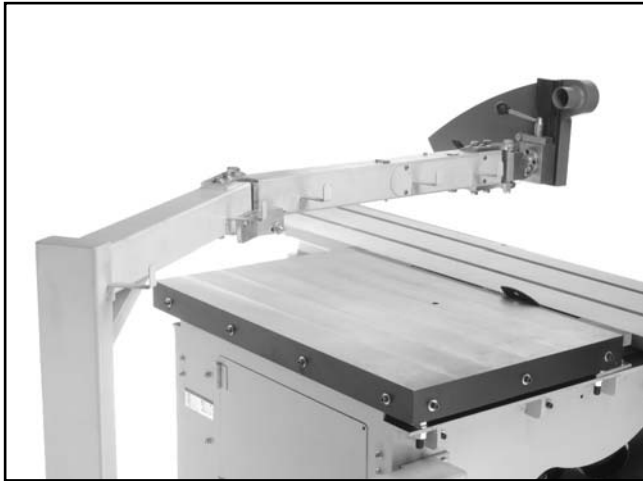

Figure 34. Pivoting swing arm installed on supports.
6. Position the pivoting swing arm over the saw table (**Figure 34**) and secure it with four M10-1.5 x 25 bolts, lock washers and flat washers. Note—*Get assistance holding the swing arm in place while securing it to the support.*